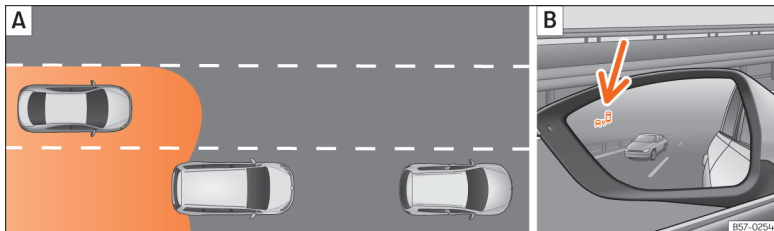

Fig. 244 Schematic diagram: **A** Passing situation with traffic behind the vehicle. **B** Indication from the blind spot detector in the left-hand external mirror.
the outside »» Fig. 243. The sensors monitor both the blind spot and traffic behind the vehicle »» Fig. 244, »» Fig. 245. The range to the sides of the vehicle is a bit larger than the width of a lane.
In the following situations, an indication will be displayed in the external mirror »» **Fig. 244** **B** [arrow] or »» **Fig. 245** **B** [arrow]:
- When being overtaken by another vehicle »» **Fig. 244** **A**.